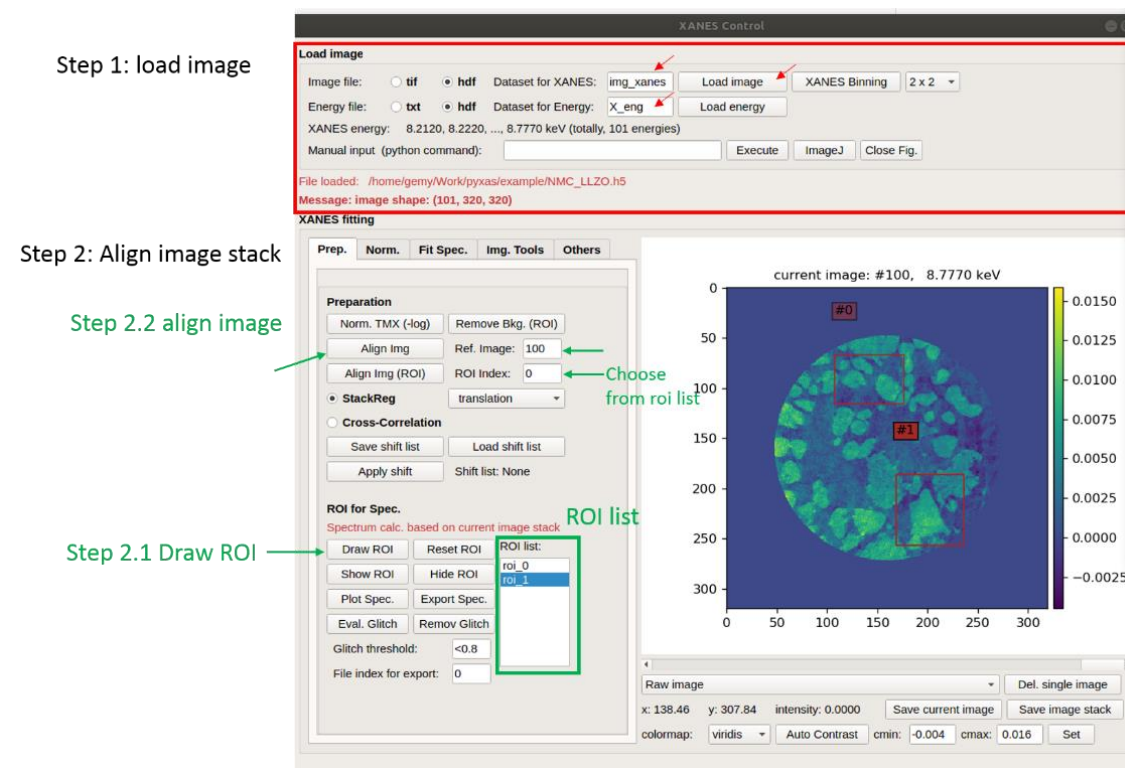

Fig. 1. Screen shot of “load image” and “align image stack”
Data loading (Tab: Prep.) (see Fig. 1):
Image alignment (Tab: Prep.) (see Fig. 1):
- a. Input the ROI # (assume you have created ROI already, check Fig. 1)